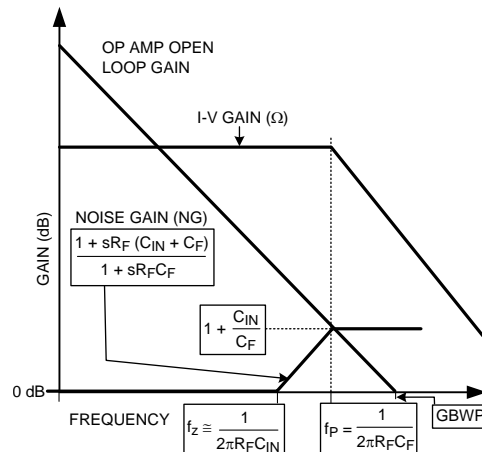

Figure 17.
Figure 17 shows the Noise Gain (NG) and transfer function (I-V Gain). As with most Transimpedance amplifiers, it is required to compensate for the additional phase lag (Noise Gain zero at f_z) created by the total input capacitance (C_D (diode capacitance) + C_{CM} (LMH6629 input capacitance)) looking into R_F ; this is accomplished by placing C_F across R_F to create enough phase lead (Noise Gain pole at f_p) to stabilize the loop.